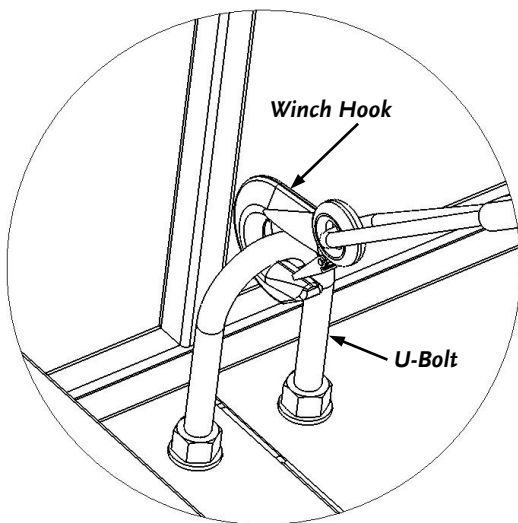

Figure 48
6. Attach the Hook from the Winch to the U-Bolt in the Bed (**Figure 48**).
NOTE: If you are loading material into the Bed that you wish to dump, make sure the Winch Hook is properly secured to the U-Bolt inside the Bed (**Figure 48**).